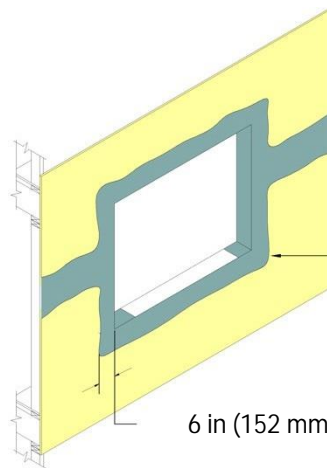

Fig. 10
- 2) Using a stainless steel trowel apply Backstop NTX – Texture over the Grid Tape extending to the inside face of the opening and onto the face of the exterior sheathing a minimum of 6 in (152 mm) – Figure 10.